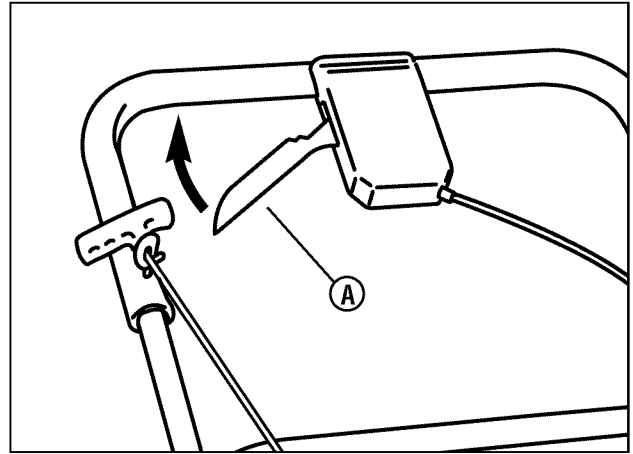

Figure 12: Operating the front wheel drive system
2. **Model SP2265FC:** Pull the drive lever (**A, Figure 12**) completely back. The drive system is now engaged.